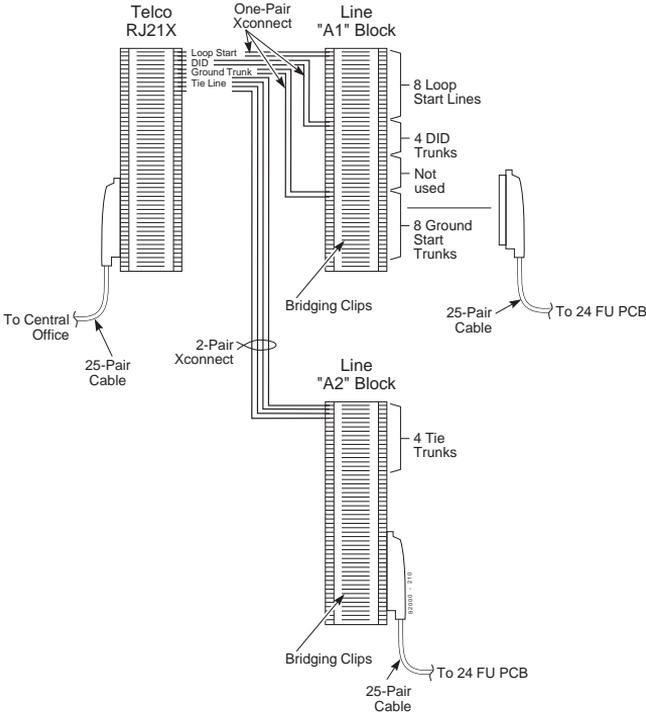
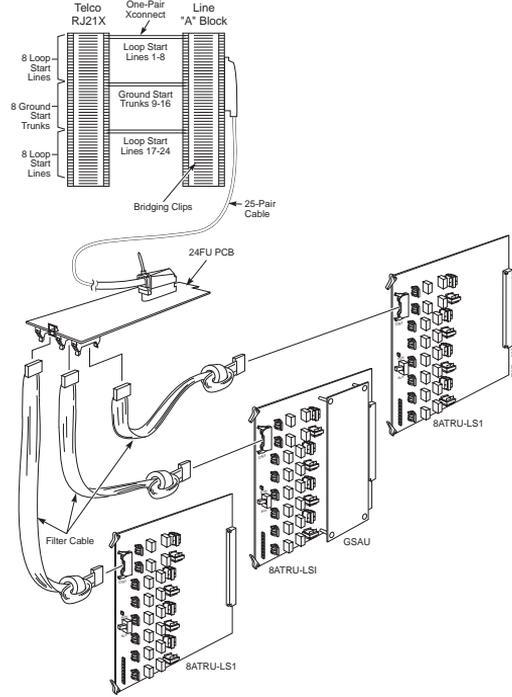

Figure 3-6 TYPICAL TRUNK/LINE INSTALLATION
Figure 3-7 INSTALLING GROUND START TRUNK/LOOP START LINES
Installing Ground Start Trunks/Loop Start Lines (Figures 3-6 and 3-7)
1. Punch down one pair cross-connect to the tip and ring leads for each line on the telco RJ21X CPE (customer) side of the block, (Figure 3-6).
2. Punch down the other end of the cross-connect to the line (A) block (in groups of 8 lines of the same line type).
3. Punch down a 25-pair cable to the opposite side of the line (A) block.
4. Plug a 25-pair connector into the corresponding 24FU filter unit (Figure 3-7).